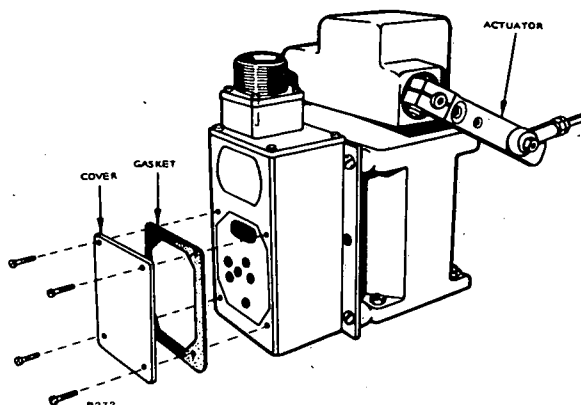

FIGURE 25. BARBER COLMAN GOVERNOR
1. Remove four screws and cover from governor controller. Refer to Figure 25.